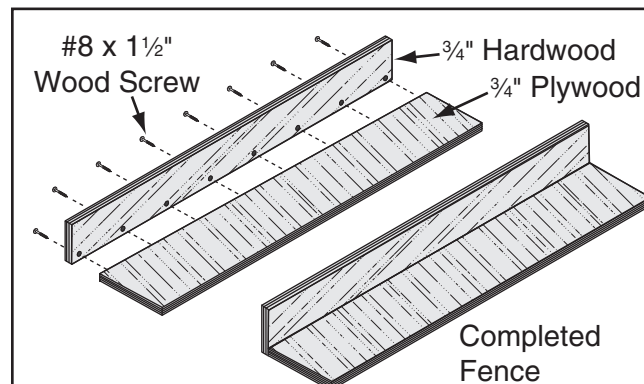

Figure 99. Location of pilot holes.
2. Pre-drill and countersink eight pilot holes $\frac{3}{8}$ " in from the edge of the $5\frac{1}{4}$ " wide board, then secure the boards together with eight #8 x $1\frac{1}{2}$ " wood screws, as shown in **Figure 99**.